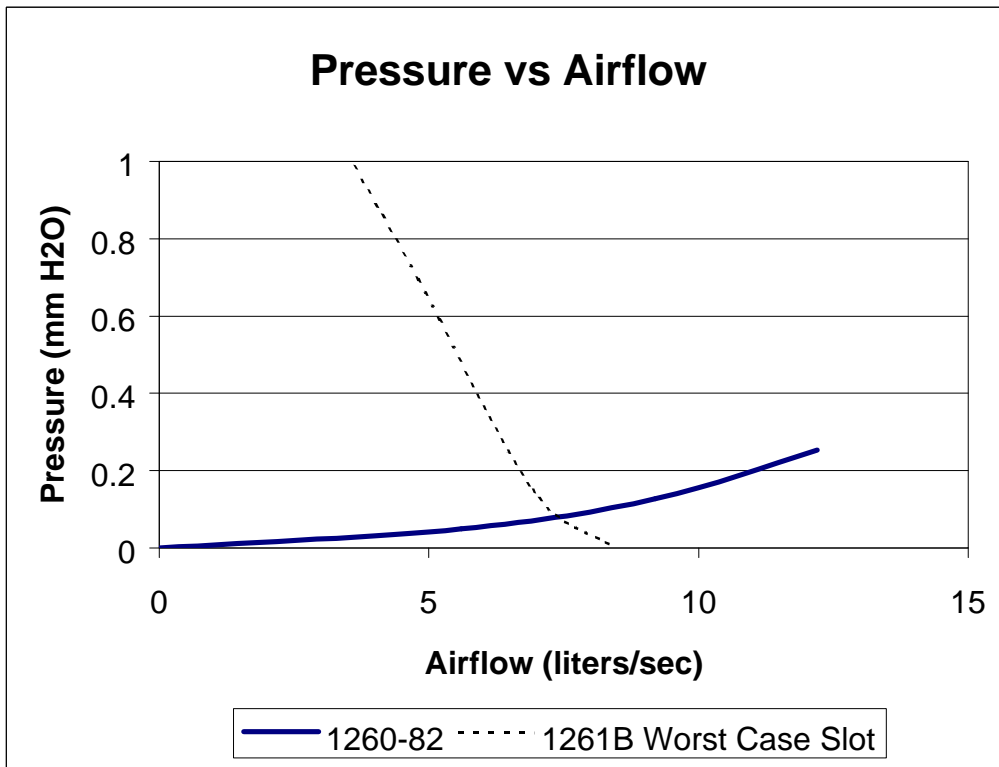

Figure 3-4, 1260-82 Optical Switch and Racal Instruments 1261B Chassis Airflow Resistance Curves
3. Determine the pressure drop across the module when the required airflow (liters/sec) is forced through the module. This can be determined by looking at pressure drop vs. airflow plot for the 1260-82 Module in **Figure 3-4**. Find the required airflow and then read the corresponding pressure in mm H₂O. For the case above, with an airflow of 1.0 liters/sec the pressure drop read from **Figure 3-4** is 0.12 mm H₂O.
4. Plot the 1260-82 operating point (Pressure, Airflow) against the chassis cooling curve. If the module operating point lies under the chassis curve, the module should remain within the specified temperature. An example of a 1260-82 Module in a Racal 1261B VXI Chassis is shown in **Figure 3-4**. The chassis airflow plotted is for the “worst case” slot airflow. In the 1261B chassis, the 1260-82 could be placed in any slot without much concern for the temperature rise of 10 °C being exceeded.